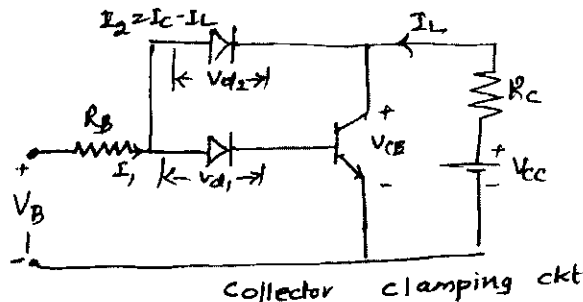

Fig. Q2 (c)
- c. The collector clamping circuit of Fig. Q2 (c) has $V_{CC} = 100$ V, $R_C = 1.5 \Omega$, $V_{d_1} = 2.1$ V, $V_{d_2} = 0.9$ V, $V_{BE} = 0.7$ V, $V_B = 15$ V and $R_B = 2.5 \Omega$ and $\beta = 16$. Calculate